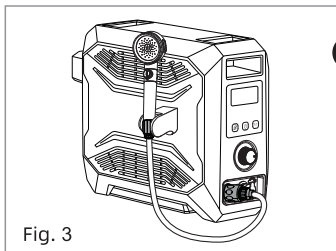

Fig. 3
1. Adsorb the magnetic shower seat on the side panel of the fuselage, and place the shower on the shower seat. (Fig.3)